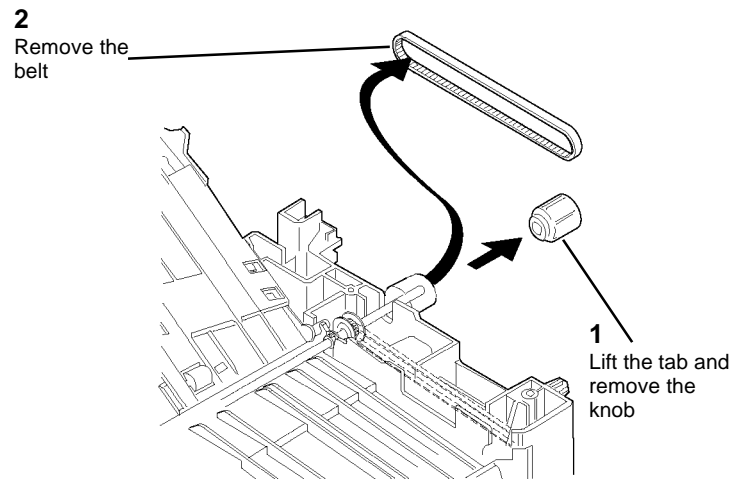

Figure 1 Removing the Manual Exit Drive Belt
2. (Figure 1): Remove the Manual Exit Drive Belt.